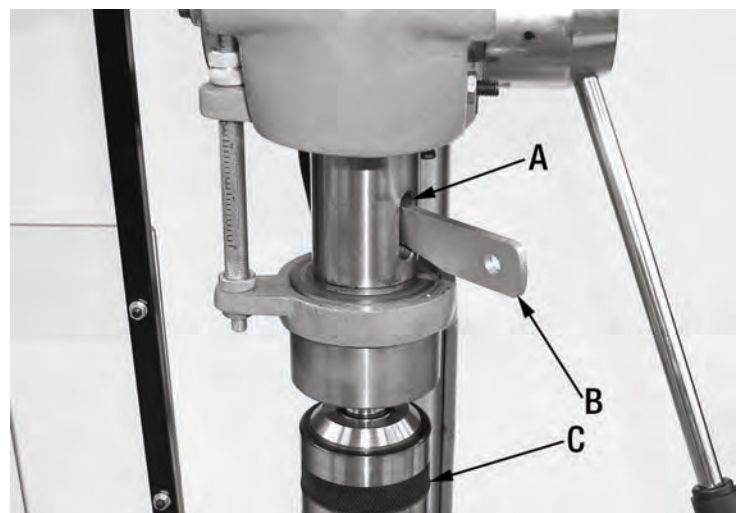

FIGURE 17
- 1) Lower the quill using the feed handles. Align key holes in spindle and quill (A) Fig.17 as shown by rotating the chuck (C) by hand.
- 2) Insert drift key (B) into key holes in the quill.